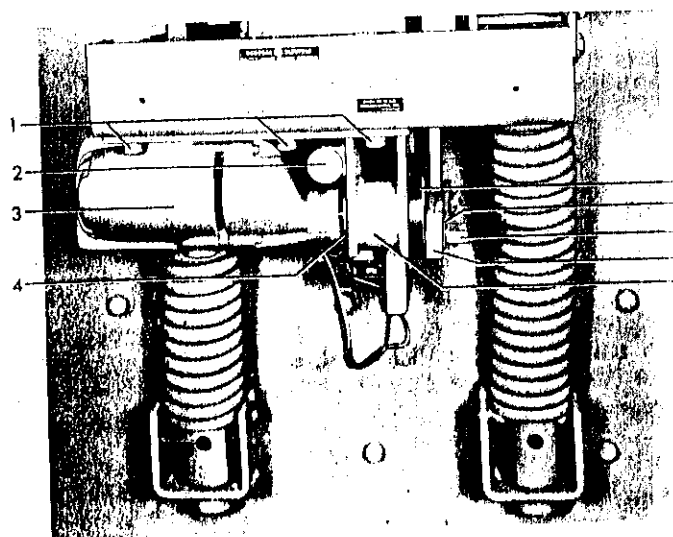

Fig 15. (8040931) Driving Elements
If adjustment is required for either pawl the springs must first be fully charged and blocked. Loosen seven motor support bolts (1) Figure 15, and move entire motor assembly to the rear if the clearance is under the minimum at the latching pawls, and to the front if the clearance is under the minimum at the driving pawl. Move the motor assembly approximately twice the dimensional increase required at the pawl. Be certain the motor assembly is moved straight forward or rearward and tighten the one bolt on the right side of the mounting frame first to assure proper alignment. After tightening the remaining bolts the springs should be released and the clearance again checked as described above.